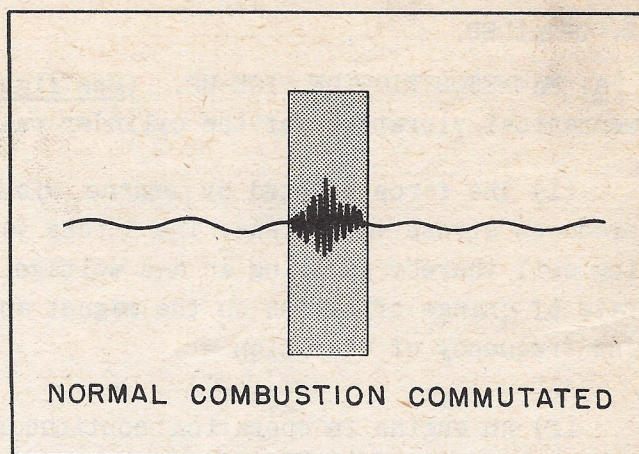

Figure 8 - Combustion Pattern
b. COMMUTATOR. (See figures 8 and 9.) - The commutator diverts the pick-up signals to the Knockometer, during the 100 degrees of crankshaft rotation within which combustion takes place, thereby eliminating the undesired signals generated during the remaining 620 degrees of rotation when intake, compression, and exhaust of gases take place. (See figure 8.)